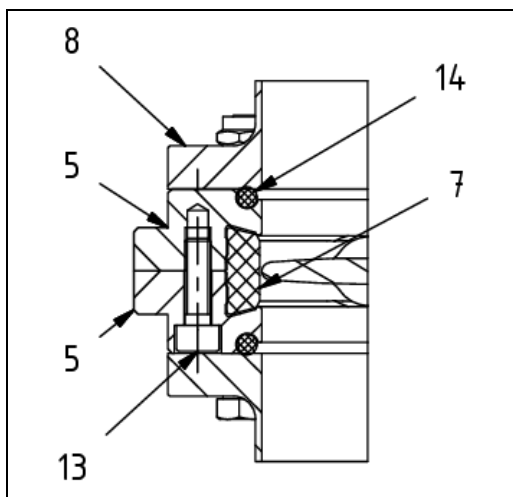

Fig. 6.6: Screw Fitting of the Inner Flange(2)
- Insert the O-rings (Fig. 6.6, item 14) into the groove in the inner flange (Fig. 6.6, item 5).
- Position the valve between the outer flanges (Fig. 6.6, item 8). When doing so, make sure that the holes in the outer flange are aligned with those in the pre-installed valve.